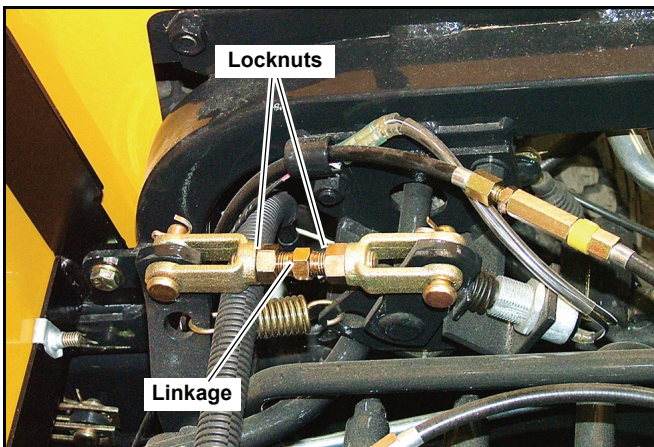

**Figure 4-29**
- b. Oil supply plugs are located on the front side of the right and left final reduction gear case. Remove the plugs. Figure 4-29